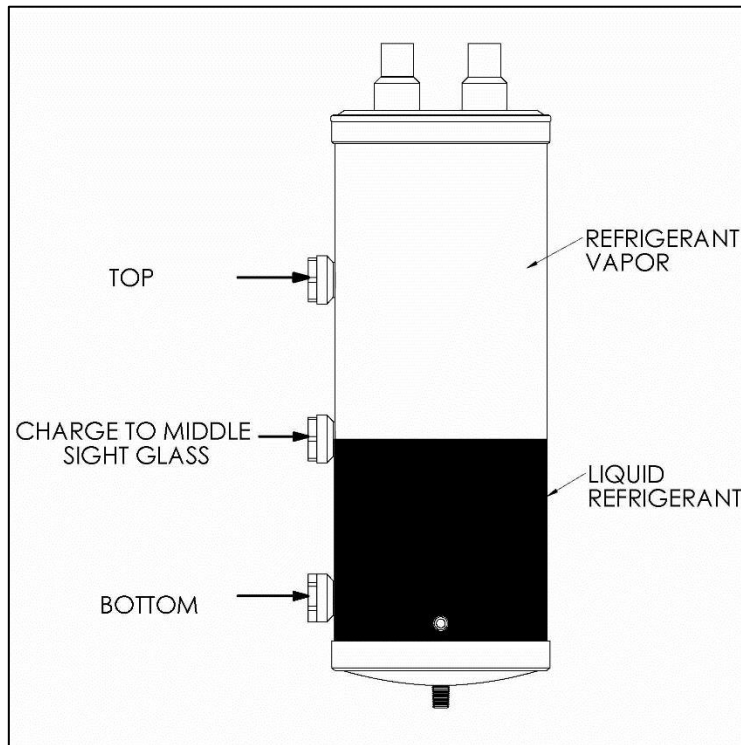

Figure 27. Charging to the Middle Sight Glass
5. Slowly add refrigerant until liquid refrigerant is clearly seen in the middle sight glass of the ACC, as shown in Figure 27.